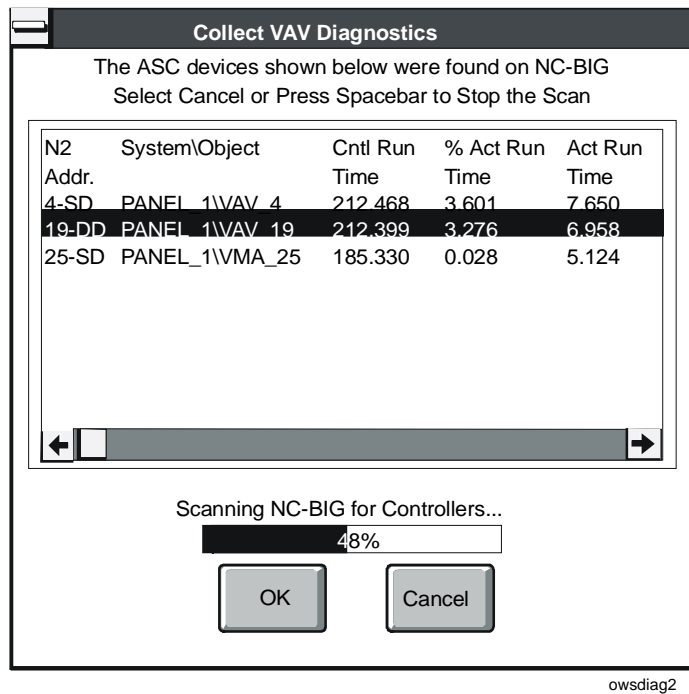

Figure 16-23: OWS - VAV Diagnostics Scan Dialog Box
- Click OK. The dialog box shown in Figure 16-23 appears while HVAC PRO software scans the NCU for all VMA1400 Series devices and all VAV controllers with diagnostics.